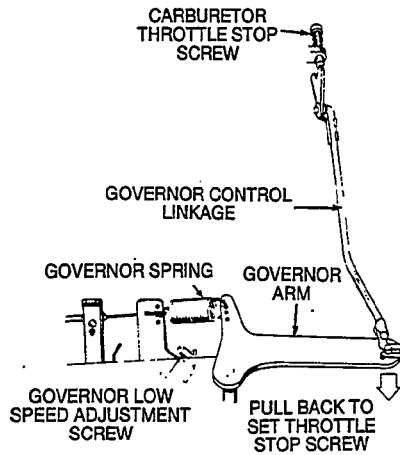

FIGURE 12. IDLE SPEED ADJUSTMENT
4. Determine if the engine has a governor low speed adjustment screw (Figure 12).
5. Pull the governor back (Figure 12) so the throttle stop screw is against its stop. Continue to hold the governor arm in this position while completing the adjustments described in steps 6 through 8.